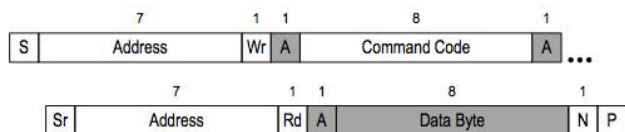

Figure 1. Read Byte protocol (SMBus 3.0 standard, Figure 29)
Consider Read Byte protocol, defined in Figure 29 of the SMBus 3.0 standard (see Figure 1). The address of any transaction proceeds after the start bit (S), and concludes before the